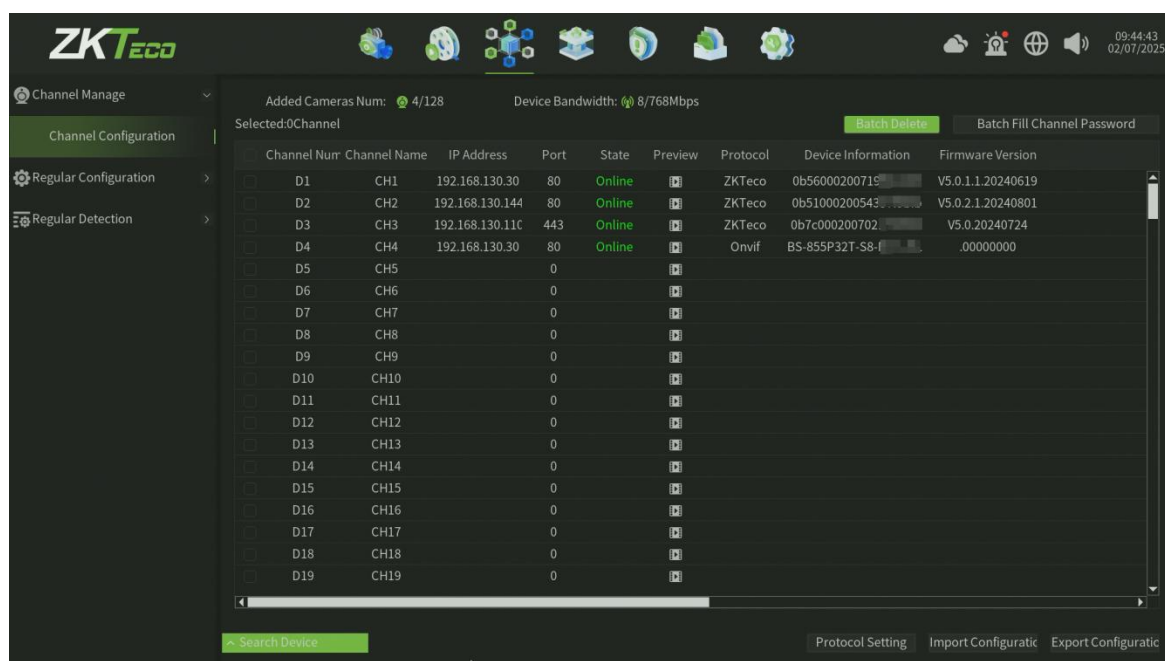

Figure 6.1. Quick Adding IP Camera Interface
1. Click  icon, enter into the Channel Config interface, as shown in figure 6.1.